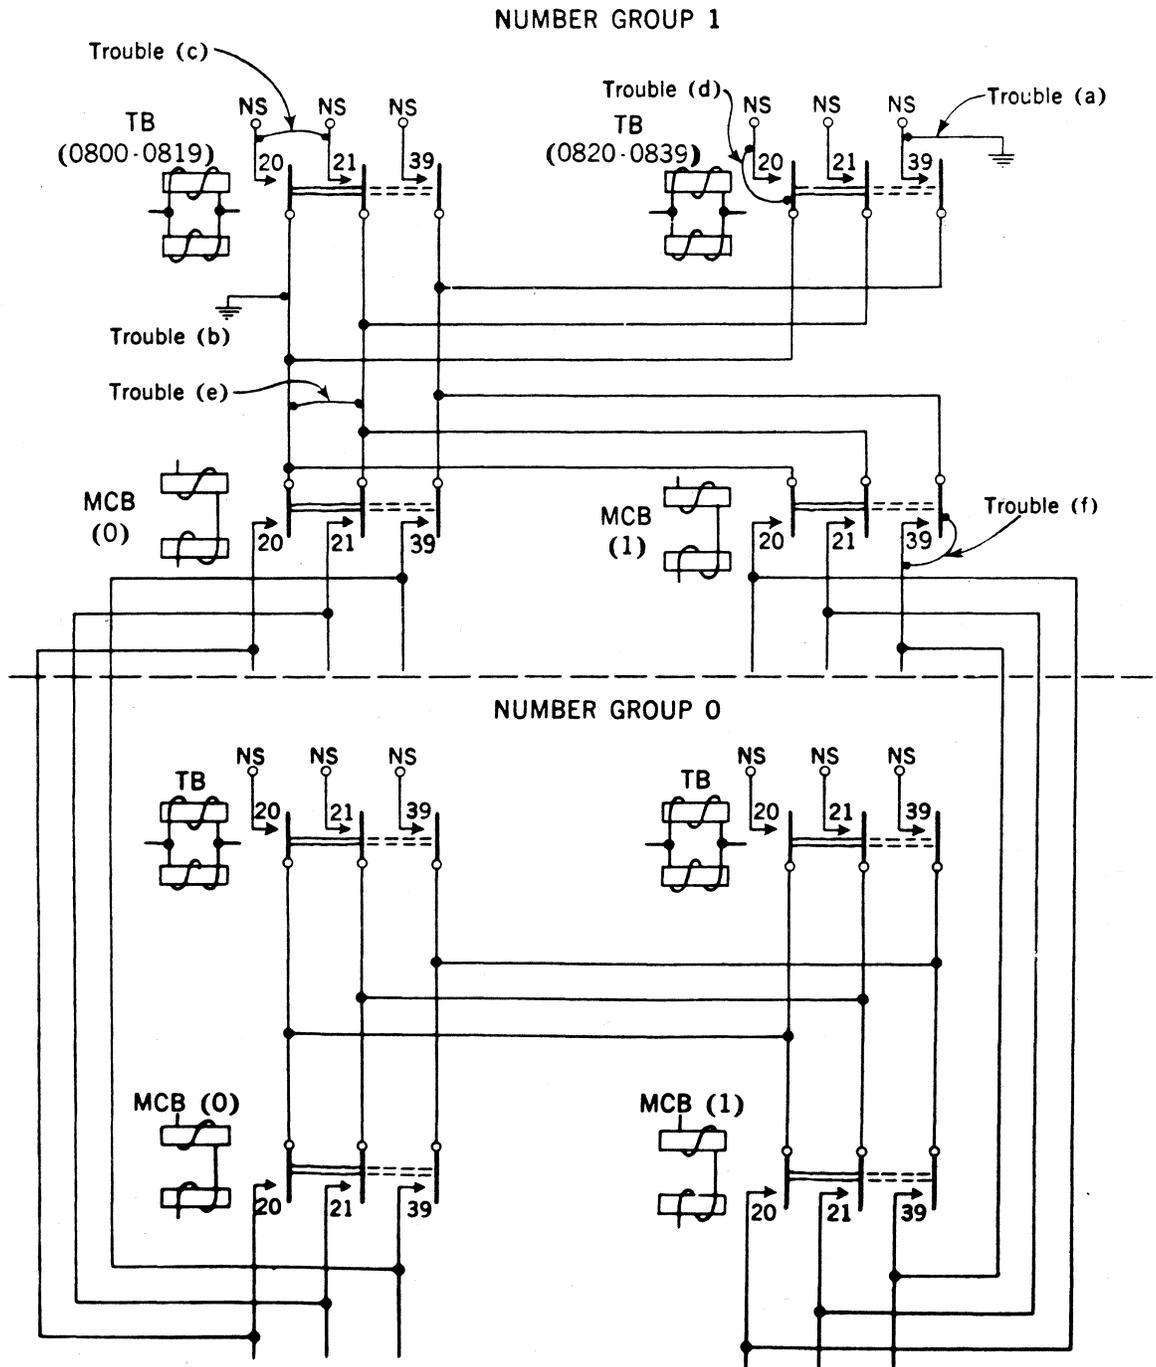

Fig. 1
5.01 Crosses or false grounds on number group connector NS leads affect the completion of calls to subscriber lines in various ways, depending upon the nature and location of a particular trouble. This section treats trouble conditions due to crossed or falsely grounded number group connector NS leads under the six following classifications illustrated in Fig. 1:
(b) Heavy Traffic Operation in the Terminating Marker or Second Trial by the Terminating Marker - When these conditions prevail terminating trouble indications will not be received. This is due to circuit design in the terminating marker which cancels the test of NS leads under heavy traffic or second trial conditions. A busy signal will be returned on calls to any number within the number group associated with the grounded NS lead. As a result reports of false busy may be received on lines associated with the grounded NS lead. Double connections may occur in connection with calls to numbers, within the number group, not associated with the grounded NS lead. When any TB relay associated with the number group involved operates, the false ground is extended over the corresponding NS lead to the associated LS punching. If the line number associated with the LS punching is working, the line hold magnet will operate. As a result a double connection may occur. To illustrate this consider that the number 20 common contacts on the TB relays in number group 1 serving subscriber lines from 0800 to 1599 inclusive are falsely grounded (see Fig. 1). A call to 0825 will result in the associated number group TB relay operating. Due to heavy traffic or second trial conditions in the terminating marker the false ground is not detected. The line hold magnet associated with 0820 will operate, due to the false ground, as well as the line hold magnet associated with 0825. If these two numbers appear in the same line link horizontal group a double connection will occur. Double connection may also occur if